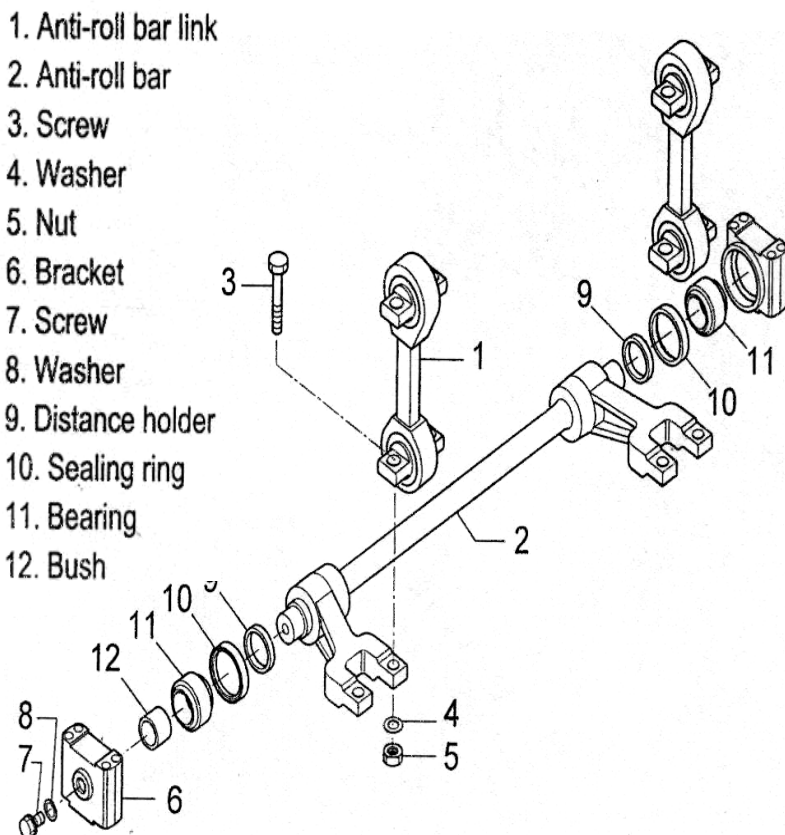

Fig. 3.22 Dismounting the Anti-Roll Bar
Separate the anti-roll bar links (Fig. 3.22) from the anti-roll bar (2) extracting the screws(3), the washers (4) and the nuts (5). Then separate the brackets (6) extracting the screw (7) and the washer (8). Remove the sealing ring (9), the spacer (10), the bearing (11) and the bush(12)